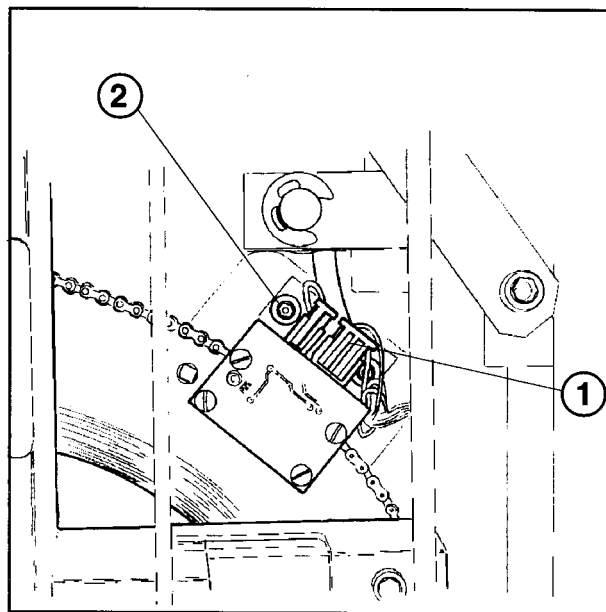

Fig. 10
- Disconnect plug X861 (1/Fig. 10) on circuit board D806.
- Remove the two screws (2/Fig. 10) to exchange the assembly.